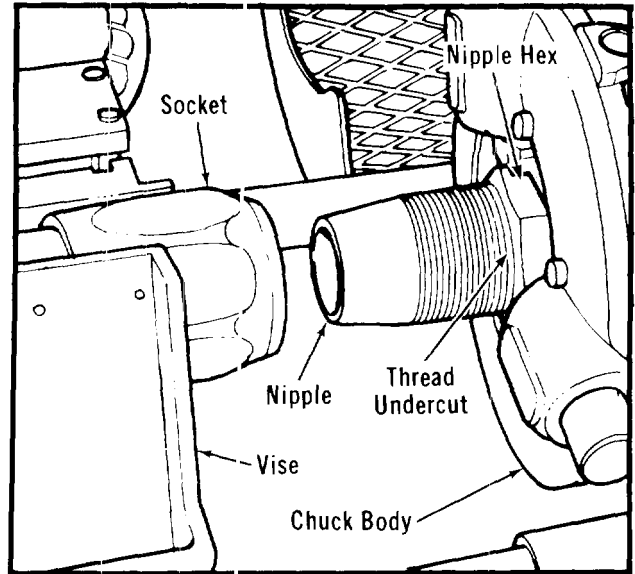

Figure 6. Assembling Nipple to Socket.
3. Clamp nipple in chuck (Fig. 6) using Chuck Wrench.
5. Clamp socket with hose in vise (Fig. 6).
9. Release Foot Switch when socket starts to cross thread undercut and allow socket to coast up to nipple hex (Fig. 6).